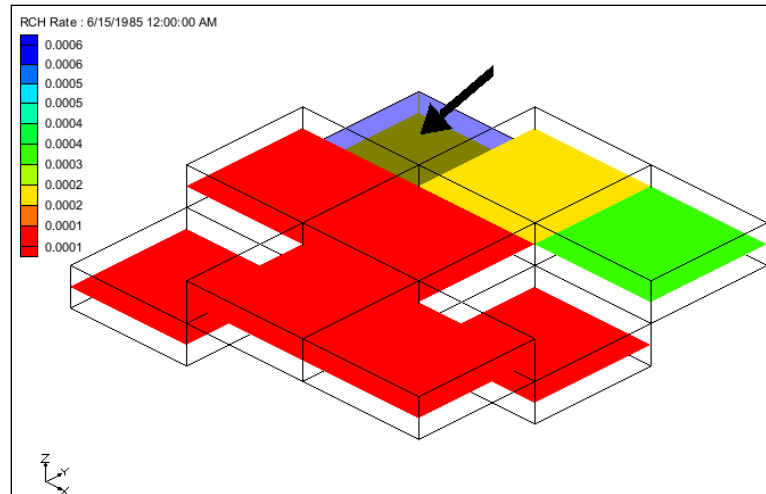

Figure 10 RCH rate cell to select
2. Using the **Select Cells**  tool, select the cell shown in Figure 10 (IJK: 1,1,2).